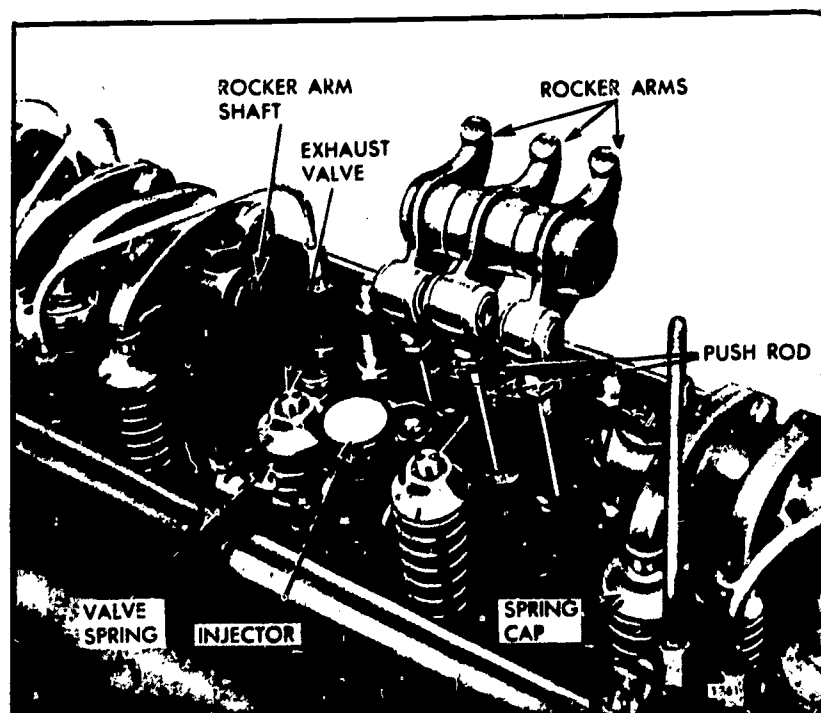

Fig. 12 Location of exhaust valves.
EXHAUST VALVE STICKING OPEN -- Sticking exhaust valves are characterized by: (1) an engine miss, evidenced by low exhaust gas temperature, and by (2) the noise of the cam follower, push rod, and rocker arm as they float between the camshaft and the valve stem. See Figure 12 to refresh your memory of valve and valve nomenclature.